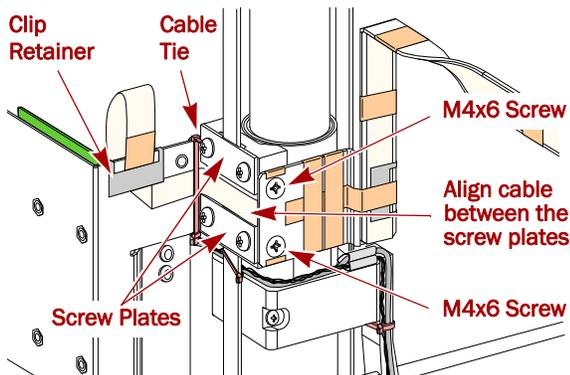

Figure 9. Attach Cable Assembly to Z-Axis Bracket
2. Use the two screws to attach the new **cable assembly** to the rear Z-axis bracket (**Figure 9**).
4. Position the cables between the screw plates (**Figure 9**), and secure it in the corner with a **cable tie** assembly.
5. Secure the cable assembly to the **bracket** (**Figure 9**):